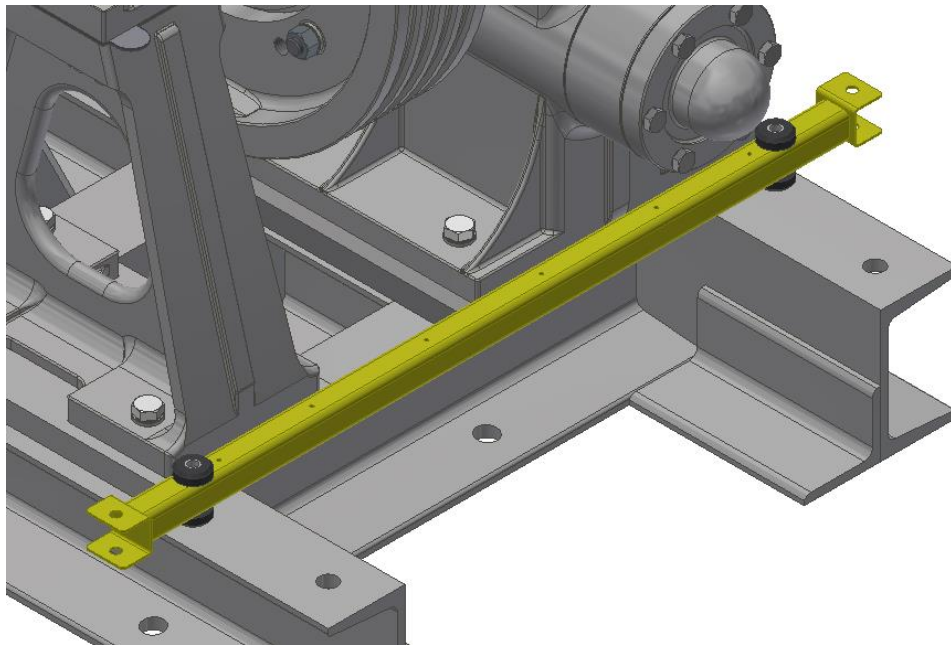

Figure 6: Machine Guard Mounting Tube Placement
- Position Machine Guard Mounting Tube (p/n \_ \_-233) on the Overhead Traction Machine base. The Machine Guard Mounting Tube (p/n \_ \_-233) should be placed as close as possible but still clear the lower housing and A-stand. The tube should be placed so the Machine Guard Isolators (p/n 34-262) are vertical and the same distance from the edge of the base as the Guard Corner Mounting Tube Assembly (p/n \_ \_-244). Reference the figure below for proper tube placement (Figure 6).